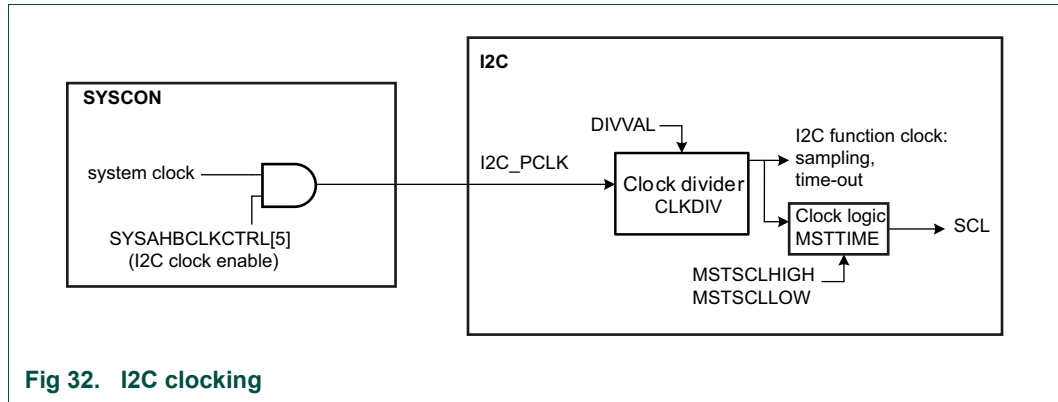

Fig 32. I2C clocking
- The peripheral clock for the I2C is the system clock (see Figure 32).